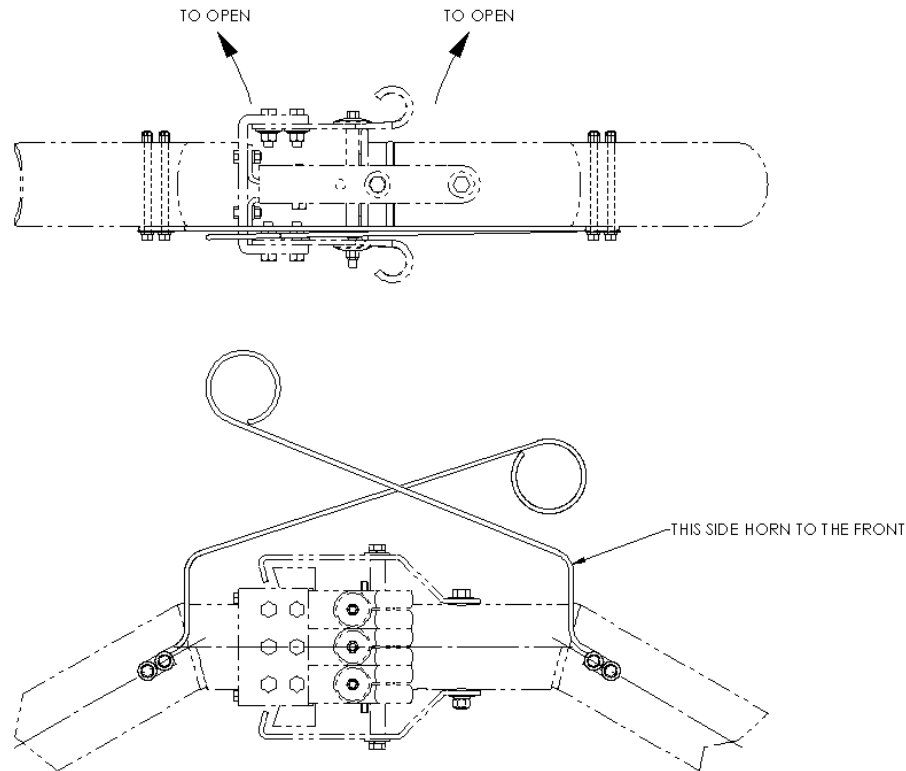
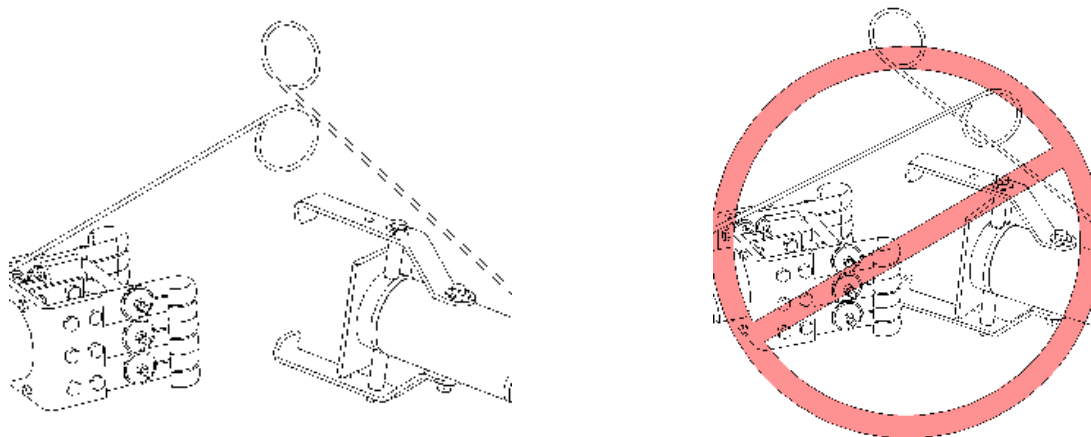

Figure 9: Attach Arcing Horns as Shown
Figure 10: Arcing Horn Contact Position
1. If arcing horns are used, refer to **Figure 9** and the unit assembly drawing for installation. Arcing horns should rub against the male contact with enough pressure to maintain contact but not so hard as to cause binding. The horns can be bent if necessary to achieve proper contact. Ensure arcing horn contact each other at the right position see **Figure 10**.